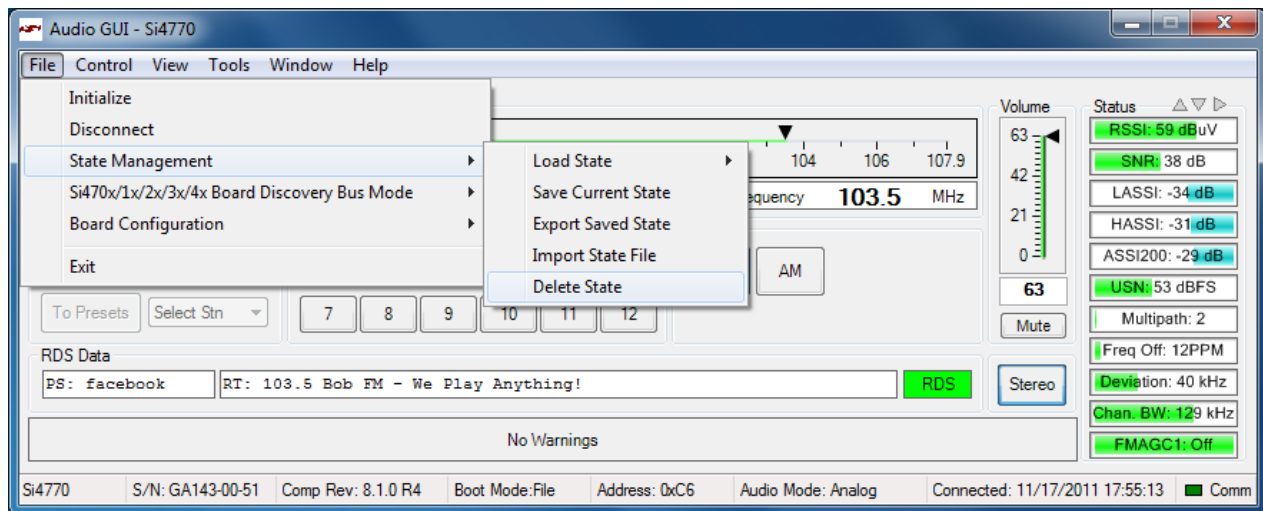

Figure 14. Delete Configuration State
1. Go to File State Management→ Delete State as shown in Figure 14.